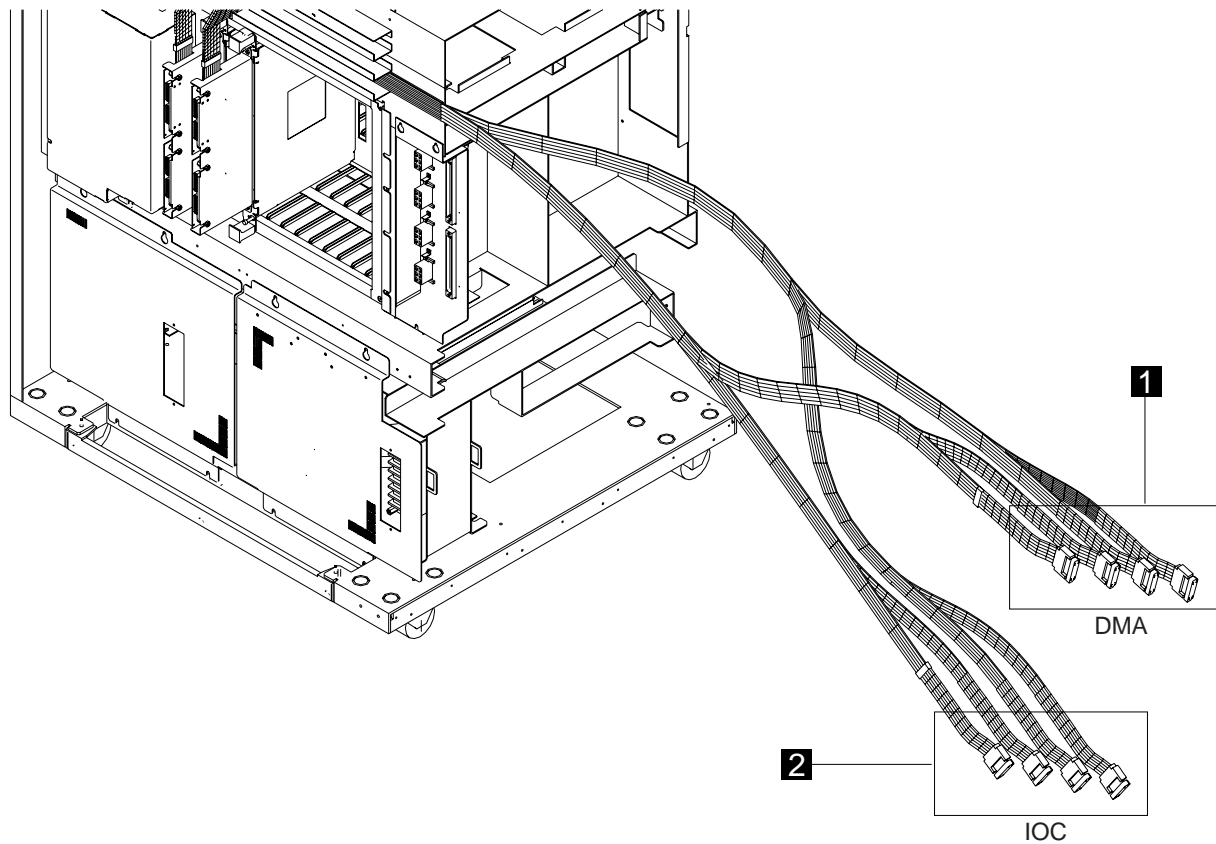

Figure 4-11. IOC and DMA Cables
Step 12. \_\_\_\_ In the 3746-900, locate the four IOC flat cables **2** (see Figure 4-11 on page 4-13). Cables **2** should be labeled: To 3745 X02, X03, X04, and X05.
- Step 3. \_\_\_\_ In the 3746-900, locate the four IOC flat cables **2**. (see Figure 4-11 on page 4-13). These cables should be labeled: to 3745 X02, X03, X04, and X05.